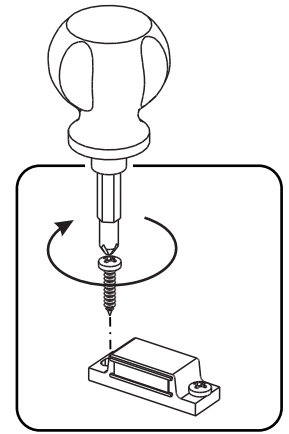

Figure 1
Attach Magnets to Side Panels (B) and (C) with Wood Screws into pre-drilled holes, then tighten. (See Figure 1)